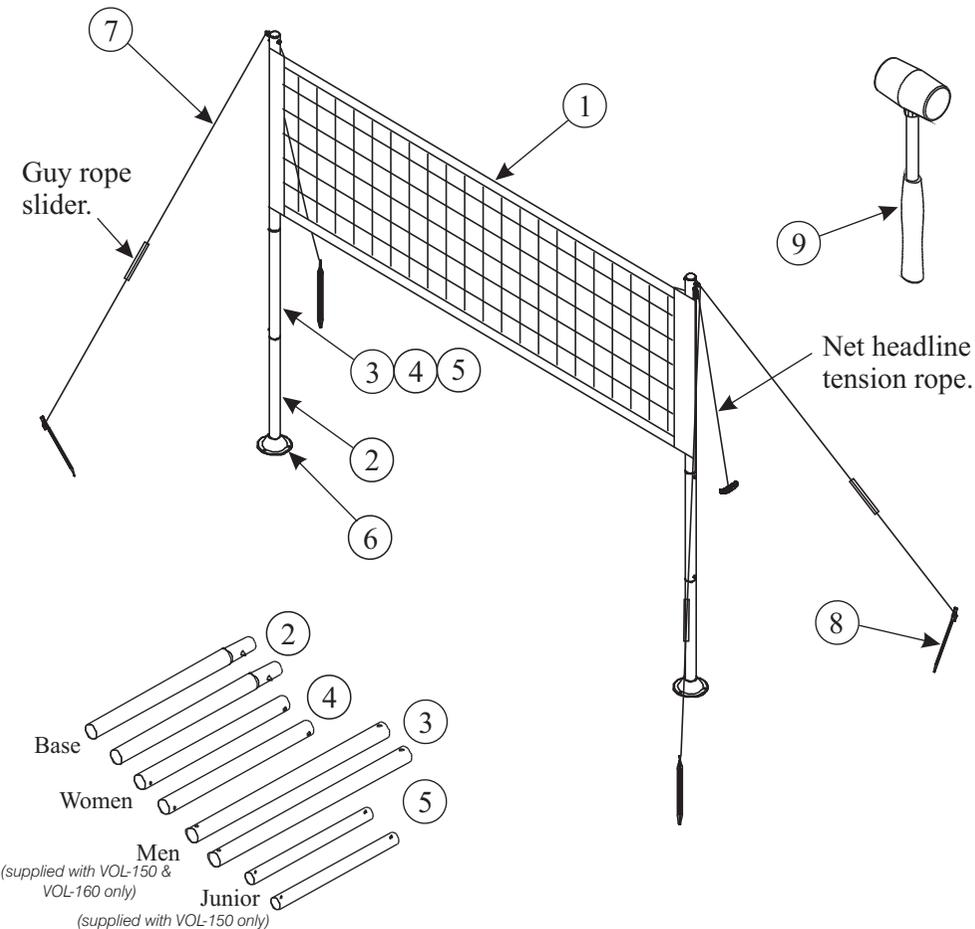

Fig.1
**3** Position 2 ground pegs (part 8) approximately 2m from each post at 45° as shown in Figure 1, tilt back and drive into the ground leaving the hook exposed for now..